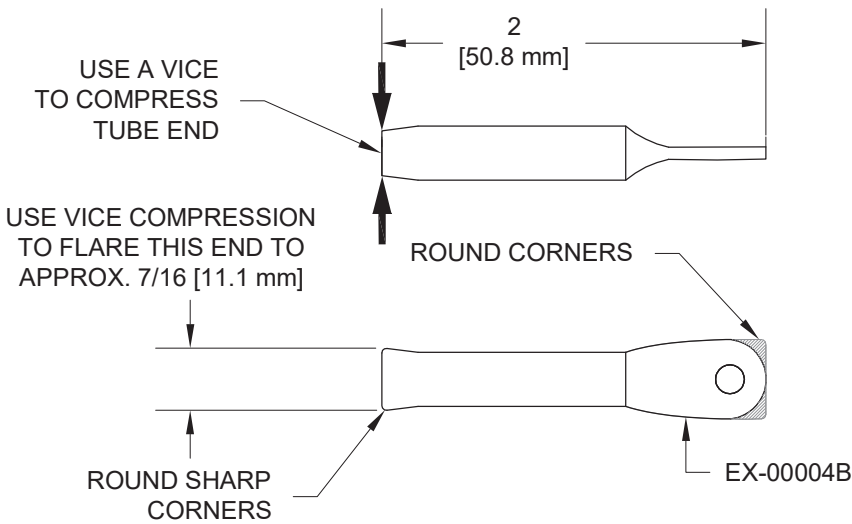

FIGURE 1A: EXHAUST SUPPORT TUBE
Step 1: Modify four EX-00004B Exhaust Support Tubes as shown in Figure 1A.